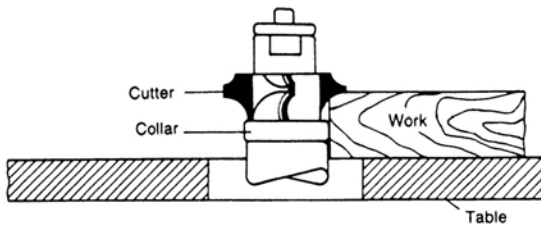

Figure 14
1. When using the collar below the cutter, Figure 14, the progress of the cut can be observed at all times. A disadvantage of this method is any accidental lifting of the work will gouge the wood and ruin the workpiece.